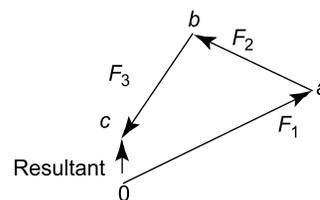

Figure 4.13
- Draw  $0a$  to scale to represent force  $F_1$  in both magnitude and direction (see Figure 4.13)
- The resultant vector is given by length  $0c$  in Figure 4.13. The direction of resultant  $0c$  is from where we started, i.e. point 0, to where we finished, i.e. point c. When acting by itself, the resultant force, given by  $0c$ , has the same effect on the point as forces  $F_1, F_2$  and  $F_3$  have when acting together. The resulting vector diagram of Figure 4.13 is called the **polygon of forces**.